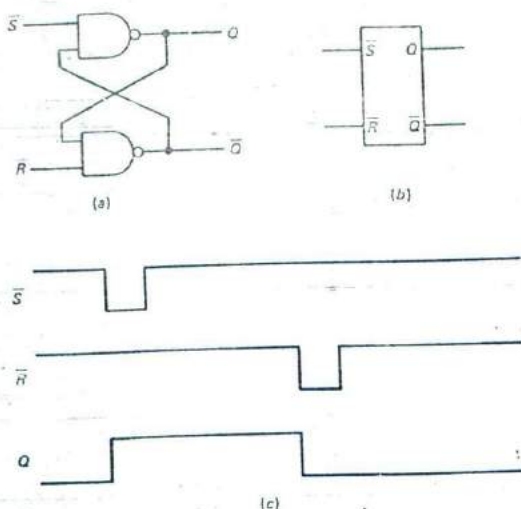

Fig. 11-16 Low activated R-S latch. (a) R-S latch from NAND gates. (b) Symbol. (c) Timing diagram.
A *latch* is a sequential logic element. It has a memory characteristic that makes it useful for storing events and binary numbers. Figure 11-16(a) shows an *R-S* latch based on two NAND gates. The *R* is the reset input, and the *S* is the set input. The inputs are activated by logic low signals. This is why the standard symbol shown in Fig. 11-16(b) of the illustration indicates NOT *S* and NOT *R*. The latch has two outputs: *Q* and NOT *Q*. When *Q* = 0, NOT *Q* = 1, and this is the *reset condition* of the latch. When *Q* = 1, NOT *Q* = 0, and this is the *set condition* of the latch. Figure 11-16(c) of the illustration shows the timing diagram. Starting at the left, the latch is initially in the *reset condition* since *Q* is low. Moving to the right, the set input goes momentarily low. The *Q* output responds by going high, and the latch is now set. Moving more to the right, the reset input goes momentarily low, and the *Q* output goes low again. The latch has been reset.
at Fig 11-16(a). The output of each NAND gate feeds back to the input of the other gate. Recall that the truth table for the NAND gate shows a logic high at the output for all input conditions except the one where both inputs are high. Assume that the latch is in the reset condition ($Q = 0$ and $\text{NOT } Q = 1$) and that both inputs are high. This means that the top NAND gate has two high inputs and its output must be low. The bottom NAND gate will have one high input and one low input, and its output must be high. The truth tables are satisfied, and the circuit is stable in this condition. Now, suppose the set input goes low. The top gate now has one low input and one high input, and its output goes high. This high is fed back to the bottom gate, so that it now has both inputs high and its output goes low. Note that the latch is now in the set state: $Q = 1$ and $\text{NOT } Q = 0$. The low output from the bottom gate feeds back to the top gate, and it now has both inputs low. This changes nothing, and the top gate still has a high output. When the set pulse ends, the top gate has one high input and one low input and there is no change. The latch is now stable in the set condition. Because of the feedback, it remembers that it was set and will stay in the set mode until a reset pulse comes along or the circuit is powered down.
To analyze digital circuits that use feedback, begin with the circuit in some stable condition. Verify that the truth tables are correct for each gate. Then, introduce a change and follow the change through by using the truth table for each gate. Use this technique now with the circuit of Fig. 11-16(a). Start with the latch in the set condition and with both inputs high. Verify the truth tables. Then apply a reset pulse
Simple R-S latches work very well, but they are susceptible to being forced to an illegal output state. They are also capable of settling to an unpredictable output state in some cases. For example, what would happen in Fig. 11-16(a) if logic 0 pulses were applied to the inputs at the same time? Both NAND gates would have high outputs. Both Q and $\text{NOT } Q$ would be high at the same time. This is illegal, since a variable and its complement cannot be the same. Then, what would happen if both pulses returned to logic 1 at the same time? Both gates would "race" to have a low output. The gate with the shorter propagation delay would win the race and force the other gate to have a high output. The latch would resume a legal output state, in either the set mode or the reset mode. Such unpredictable behavior is unacceptable in digital circuits. This condition is known as *pulse race* or simply *race* and must be avoided.
- Refer to Fig. 11-16(c). If the diagram included a waveform for NOT Q , how would it compare with the Q waveform?
- Refer to Fig. 11-16(c). If a second set pulse followed the first set pulse and preceded the reset pulse, how would the Q waveform change?